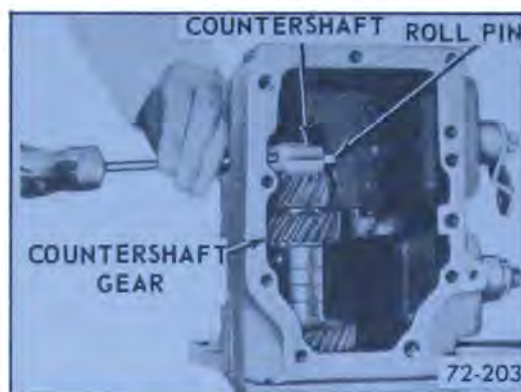

Figure 72-203—Removing Countergear Shaft Retaining Pin
5. Through filler plug hole drive out countershaft to case retaining pin. See Figure 72-203.